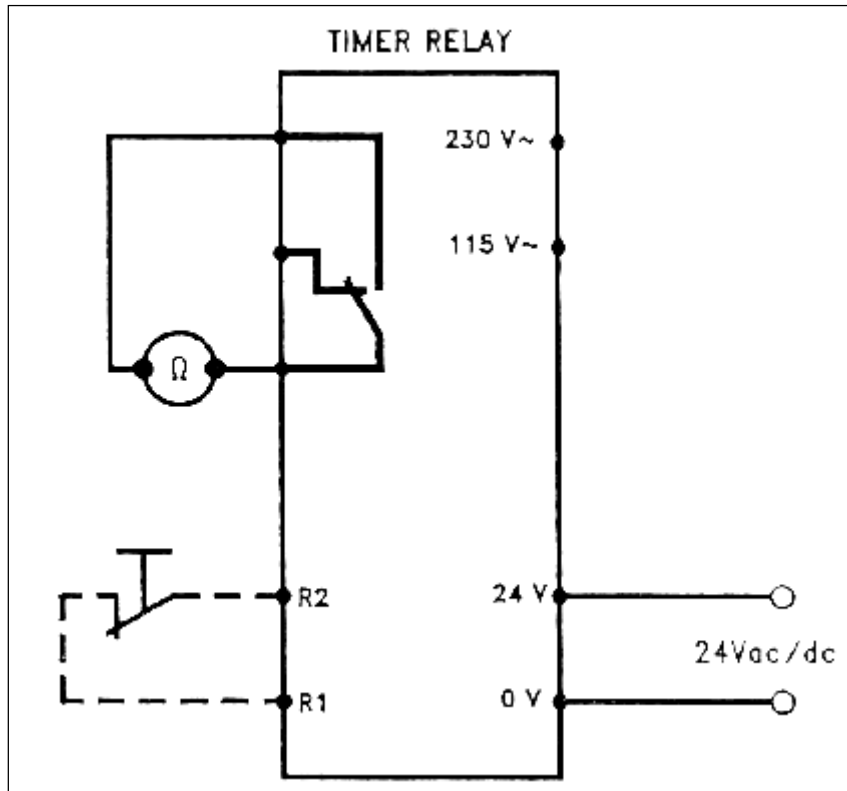

Figure 2.15 Usage diagram of a timer relay in different configurations 24-Vac/dc power supply.
8. Repeat part A, B for the Flowing the electrical diagram of figure 2.15